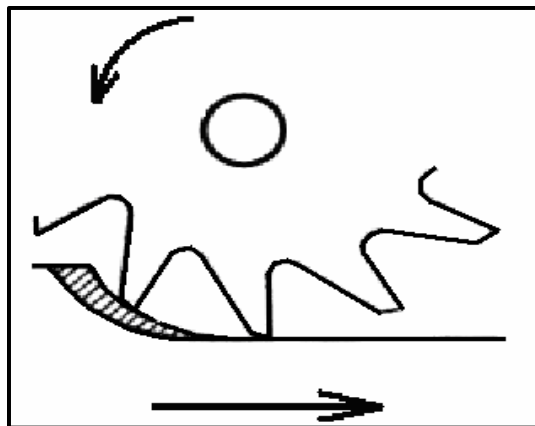

FIGURE 4.2
4.2 Identify the type of milling operation shown in FIGURE 4.2.